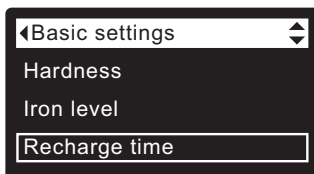

FIG. 54
3. Press the SELECT (O) button to display the Basic settings menu (See Figure 54).
7. Press the SELECT (O) button. The display will go back to the Basic settings menu (Figure 54).